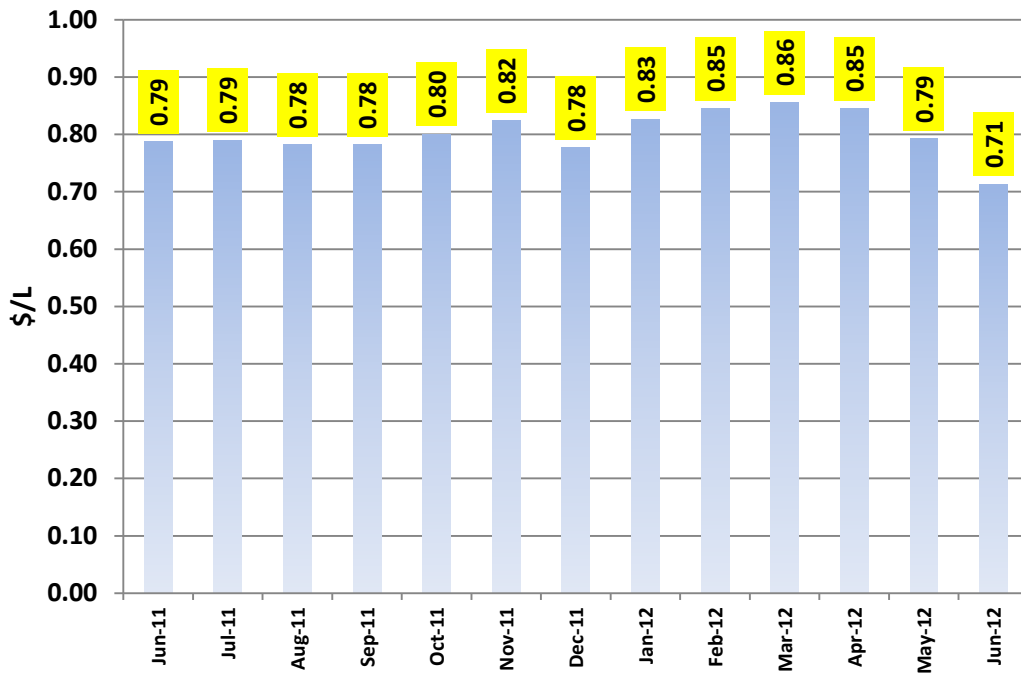

Figure 1: Jet fuel monthly price in Canada (\$/L)
4. For the price of jet fuel, use the average price over the last 13 months: see Figure 1.